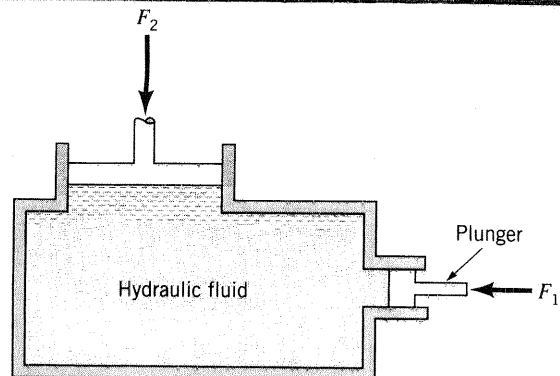

FIGURE P2.12
2.12 The basic elements of a hydraulic press are shown in Fig. P2.12. The plunger has an area of 1 in.^2 , and a force, F_1 , can be applied to the plunger through a lever mechanism having a mechanical advantage of 8 to 1. If the large piston has an area of 150 in.^2 , what load, F_2 , can be raised by a force of 30 lb applied to the lever? Neglect the hydrostatic pressure variation.